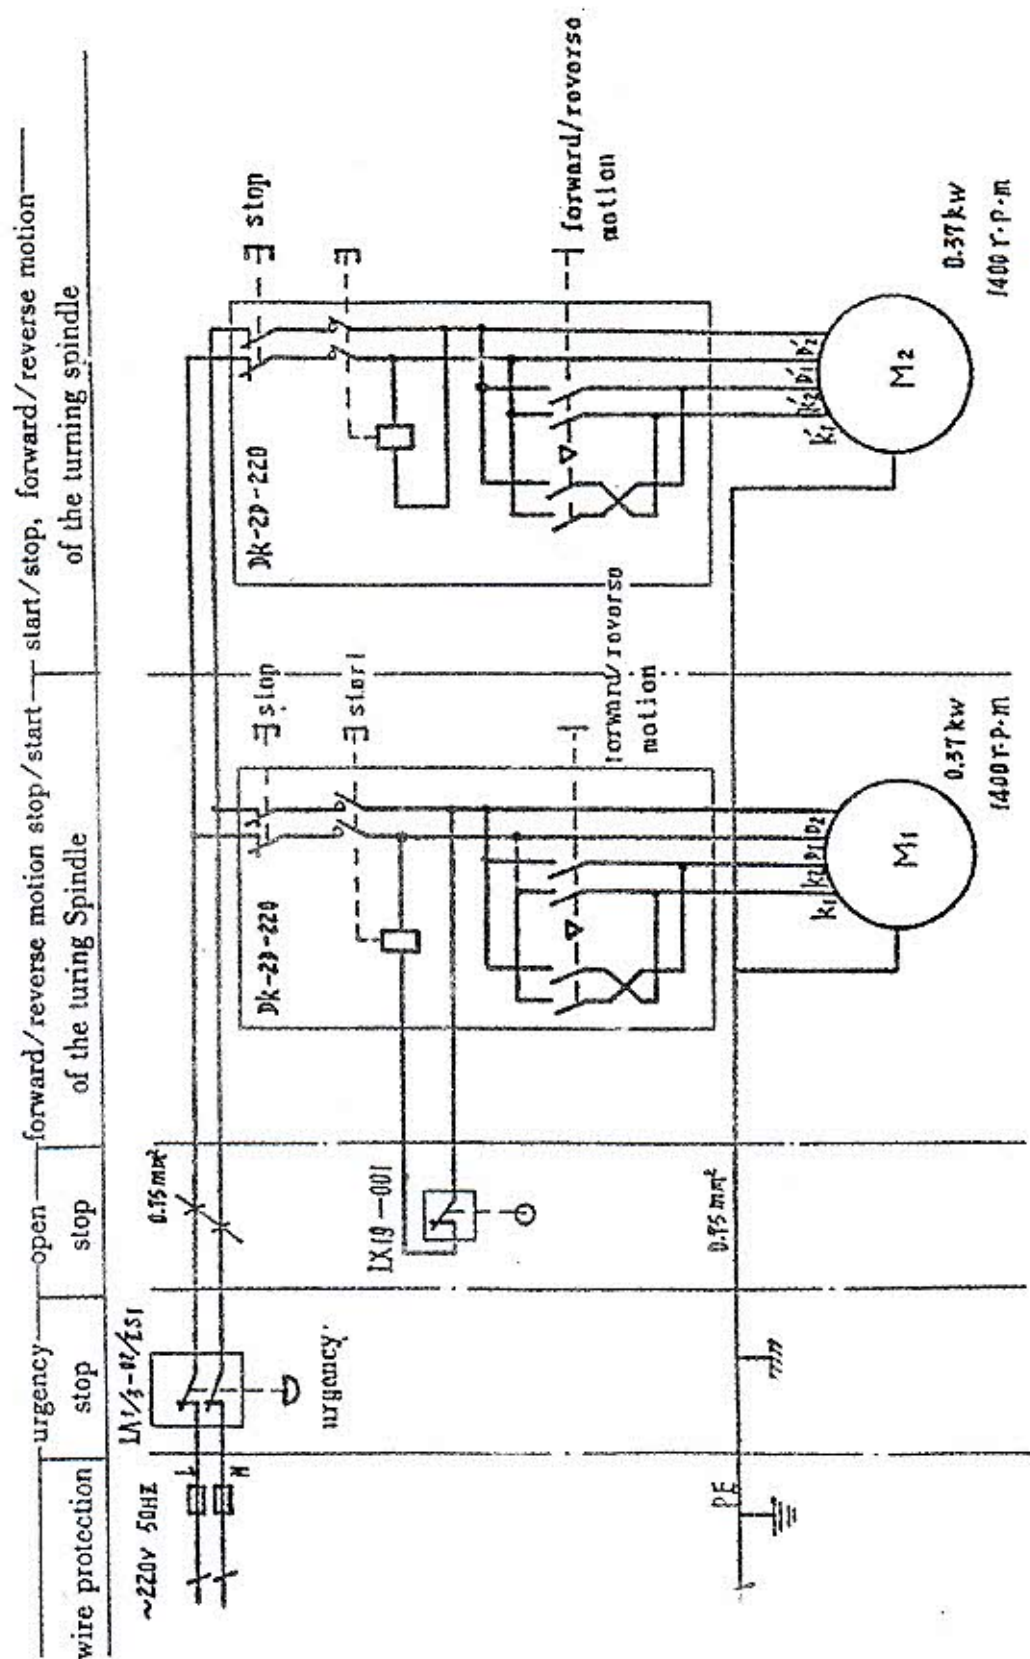

Fig8 - 1 SINGLE - PHASE ELECTRIC DIAGRAM
7. ELECTRICAL EQUIPMENT (See Fig. 8. 1 , Fig. 8. 2)